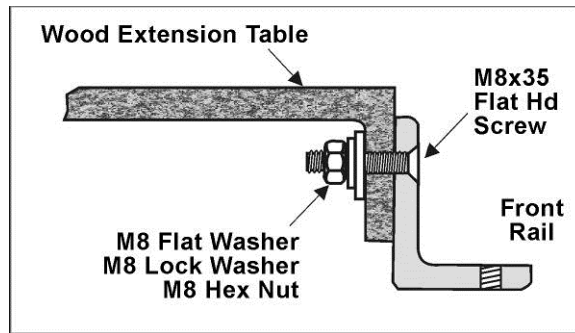

Figure 9
7. Install M8 x 35 socket flat head screws through the front rail and secure each with a flat washer, lock washer, and hex nut behind the lip of the wood table (Figure 9). Finger tighten only.